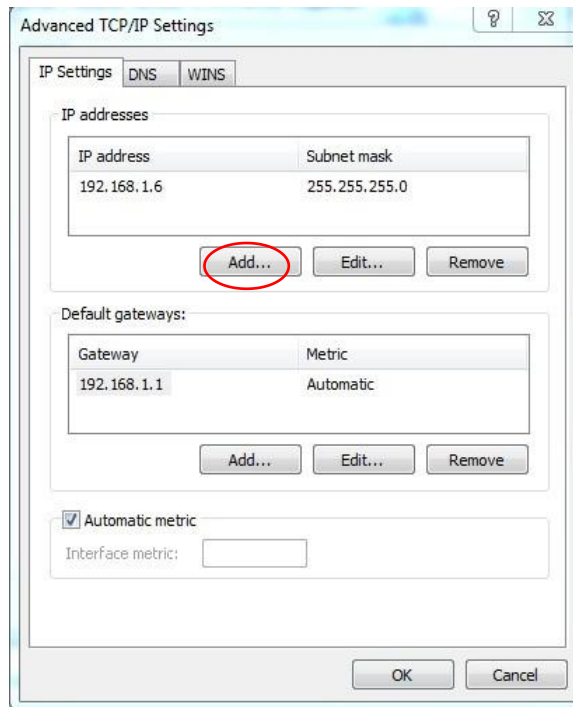

Figure 6.3
2) Click “Add” under “IP address”, enter to “TCP/IP address”. (See **Figure 6.3**)